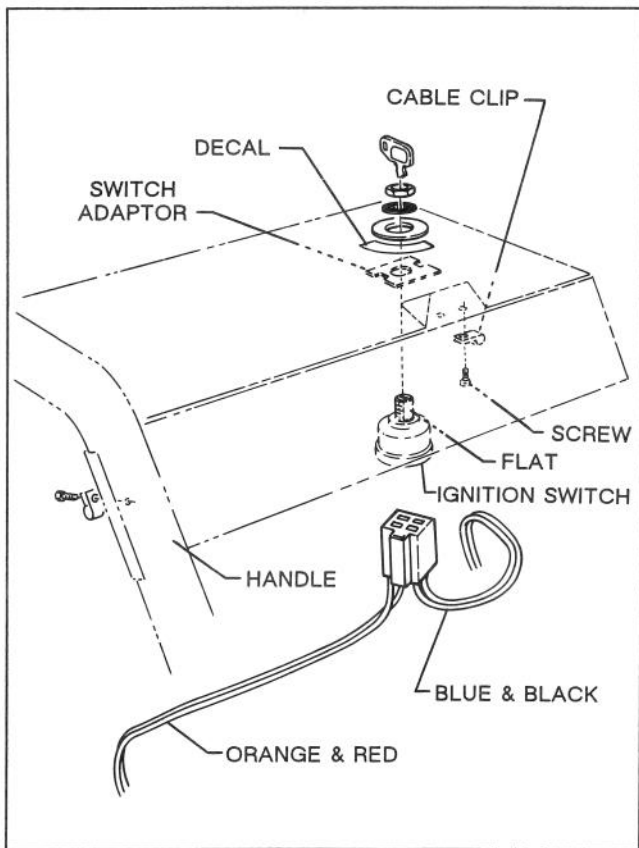

Figure 19
34. Disconnect and discard (2) wires connected to engine from switch.
35. Install new ignition switch as shown in fig.19. Make sure that flat on key switch and switch adaptor face front of machine.